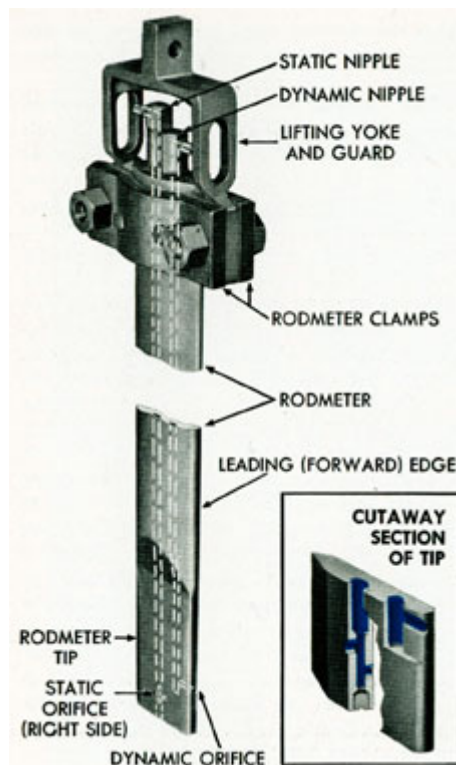

Figure 20-2. Rodmer.
**20C2. Breaking out spare rodmeter.** (See Figure 20-2.) Break out the spare rodmeter and place it alongside the hoist mechanism so that it will be immediately available when needed.
**20C4. Installing the clamp and guard assembly.** (See Figure 20-2.) The two clamps and the guard are marked to facilitate reassembly. These marks should be adjacent to one another when the pieces are assembled on the rodmeter. Place the two clamps
20C3. Removing the clamp and guard assembly. (See Figure 20-2.) From 1/2-inch
**20C5. Installing the spare rodmer.** (See Figure 20-2.) If the damaged rodmer is partially raised, push it downward until the remaining stop pin rests on top of the packing gland in the sea valve extension. It may sometimes be necessary to drive the rodmer downward with a sledge and wooden block. Place the tip of the spare rodmer on top of the damaged rodmer, making certain that the dynamic orifice in its leading edge is facing forward. Note the arrow stamped on the rodmer for facing the spare rodmer in the proper direction. Remove the cotter pin and clevis pin that secure the old guard to the lifting bar on the hoist chain, and remove the old guard. Align the opening in the lifting bar with the opening provided in the guard on the spare rodmer, and install the clevis pin and cotter pin that secure the lifting bar to the guard assembly. Place the loose end of the dynamic hose over the nipple provided on the dynamic (short) nipple on the top of the rodmer. The opposite end of this hose is attached to the lower pipe at the top of the manometer. Secure the hose to the nipple with a hose clamp. Place the end of the static hose on the long nipple on the top of the rodmer. The opposite end of the static hose is attached to the top pipe fitting at the top of the manometer. Secure the hose to the nipple with a hose clamp. It is a good practice to wire the two hose clamps together with soft